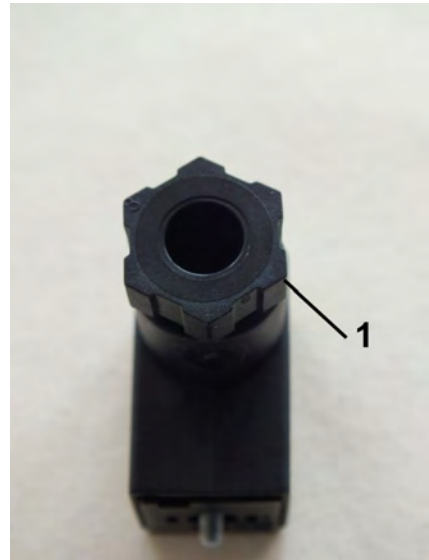

Fig. 25: Remove the screw connection
4. ➤ Remove the screw connection (Fig. 25/1) by turning to the left.
8. ➤ Re-tighten the screw connection (Fig. 25/1) by turning it to the right until tight.